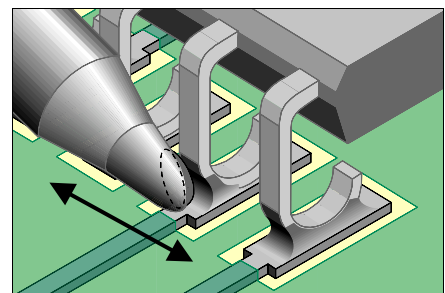

Figure 3: Slowly move the tip over the row of leads to form proper solder fillets at each joint.
6. Position the solder tip so that the solder bead contacts the vertical portion of the J leads. Slowly move the tip over the row of leads to form proper solder fillets at each joint. (See Figure 3).